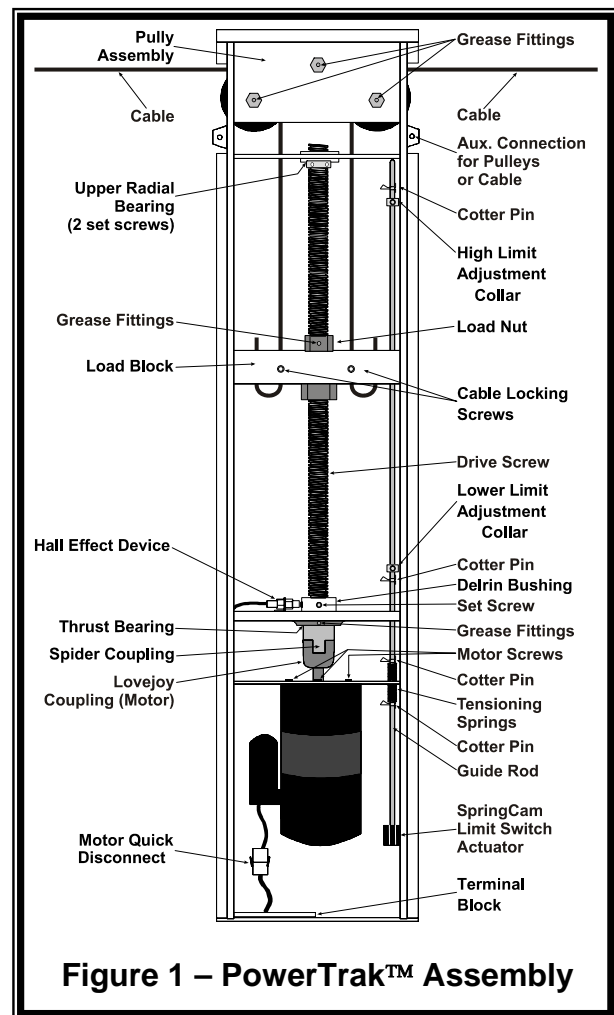

Figure 1 – PowerTrak™ Assembly
- (3) Remove tension from the PowerTrak™ load block cables, loosen the cable locking screws, and disconnect the cables from the load block. **Refer to Figure 1.**
- (4) Remove the cables completely from the Power Trak™ unit.
- (5) To minimize re-alignment of the limit switches, use a permanent marker to mark the following items position:
- High and low collars on the guide rod. **Refer to Figure 1.**
- (6) Loosen the high and lower limit switch collars using a 3/32" allen wrench. **Refer to Figure 1.**
- (7) Remove the three cotter pins or roll pins in the Guide Rod above the tension springs. **Refer to Figure 1.**
- (7) Install the motor with the three/four motor screws/nuts. Ensure the drive screw, spider coupling, and lovejoy motor coupling are correctly installed as shown. Refer to Figures 1 & 14.